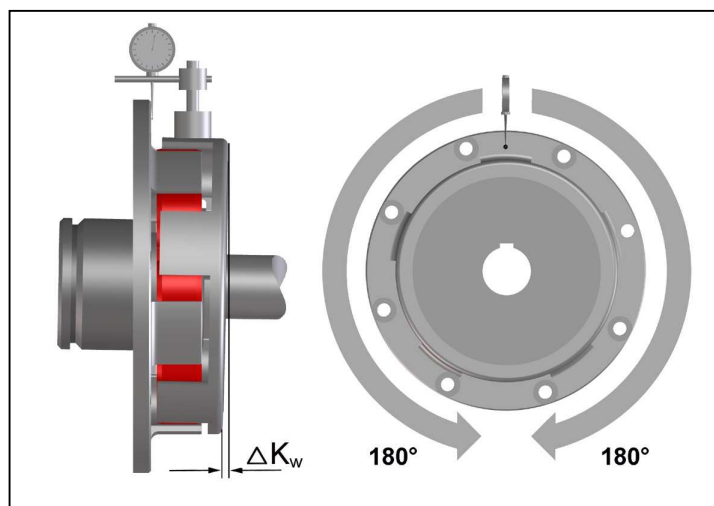

Fig. 6
- Measure one complete revolution (360°) on the face of the outer diameter. Determine the largest deviation Kw1 and the smallest deviation Kw2 (Fig. 6). Calculate the angular misalignment: